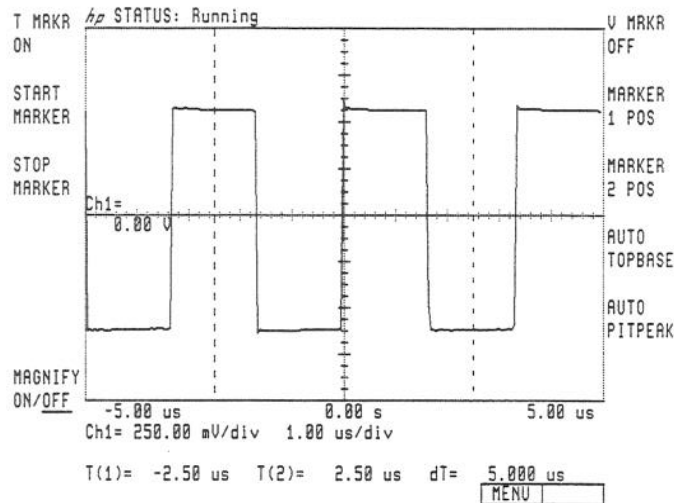

Figure 2-65. Time Markers ON
The **T MRKR OFF/ON** turns on or off the display of the START and STOP time markers on the selected channel, function, or memory display. The annotation related to the time markers is indicated by T(1) and T(2) and is also turned off and on by this softkey. See Figure 2-65.